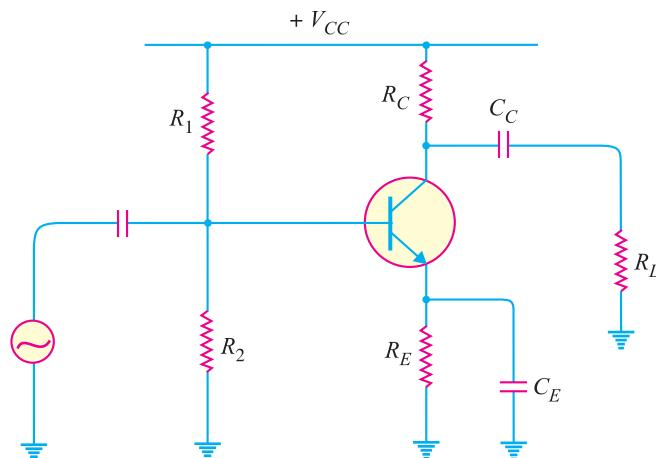

Fig. 10.46
3. Fig. 10.46 shows the transistor amplifier. If $R_C = 4 \text{k}\Omega$, $R_E = 5 \text{k}\Omega$ and $V_{CC} = 30 \text{ V}$, draw the d.c. load line.
4. Find the operating point for Fig. 10.46, $V_{CC} = 30 \text{ V}$, $R_1 = 20 \text{k}\Omega$, $R_2 = 20 \text{k}\Omega$, $R_C = 4 \text{k}\Omega$, $R_E = 5 \text{k}\Omega$. [13.2V, 1.85mA]
5. For the circuit shown in Fig. 10.46, find the voltage gain if $\beta = 100$, $R_C = 3 \text{k}\Omega$, $R_L = 6 \text{k}\Omega$ and $R_{in} = 2 \text{k}\Omega$. [100]
6. In the circuit shown in Fig. 10.46, $V_{CC} = 30 \text{ V}$, $R_1 = 2 \text{k}\Omega$, $R_2 = 1 \text{k}\Omega$, $R_C = 2 \text{k}\Omega$, $R_L = 2 \text{k}\Omega$, $R_E = 1 \text{k}\Omega$. Draw the d.c. and a.c. load lines.